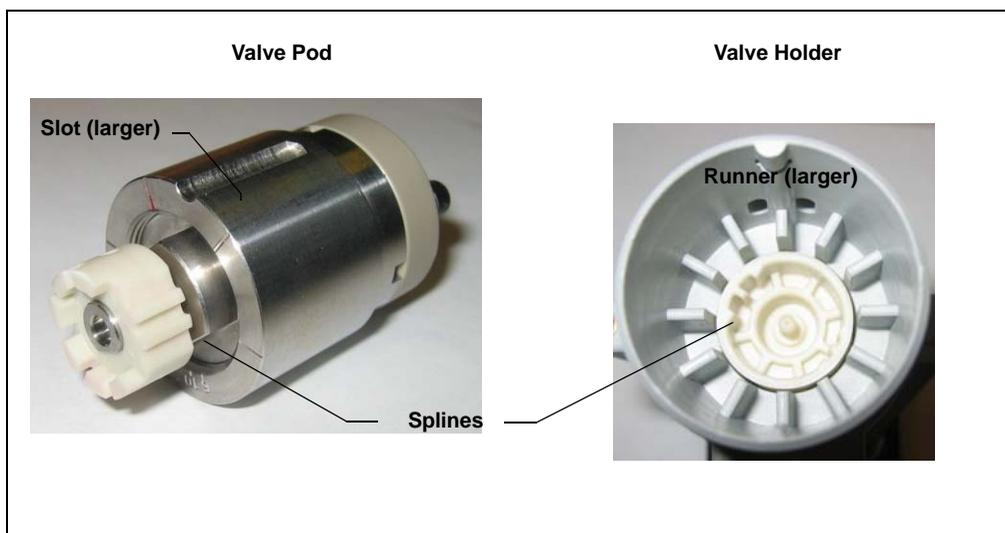

Figure 5-6. Valve Pod and Pod Holder
7. Align the slots in the new pod with the runner in the valve holder on the Dionex ICS-1100 (see Figure 5-6). Valve pods are keyed to fit only one way (one slot is narrower than the other). Verify that the slots are aligned with their matching runners.
8. Also verify that the two splines on the pod align with the matching splines inside the valve holder (see Figure 5-6). If necessary, twist the end of the pod to adjust the position of the splines.